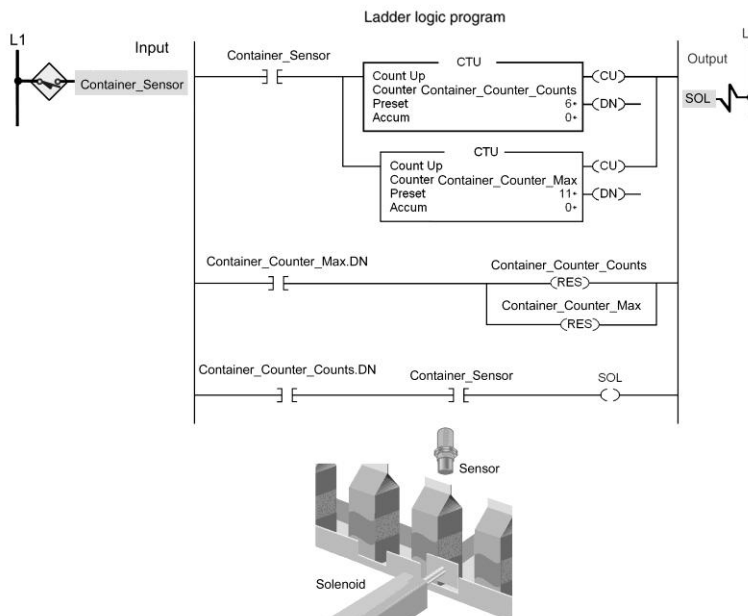

Figure 15-37 Count-up counter program for assignment 2.
2) The count-up counter program of Figure 15-37 is used to remove containers from a conveyor line and is described in the text. Prepare an I/O connection diagram and ladder logic program that will simulate its operation. Utilize field devices found on your ControlLogix installation. Enter the program into the controller, and monitor its operation.